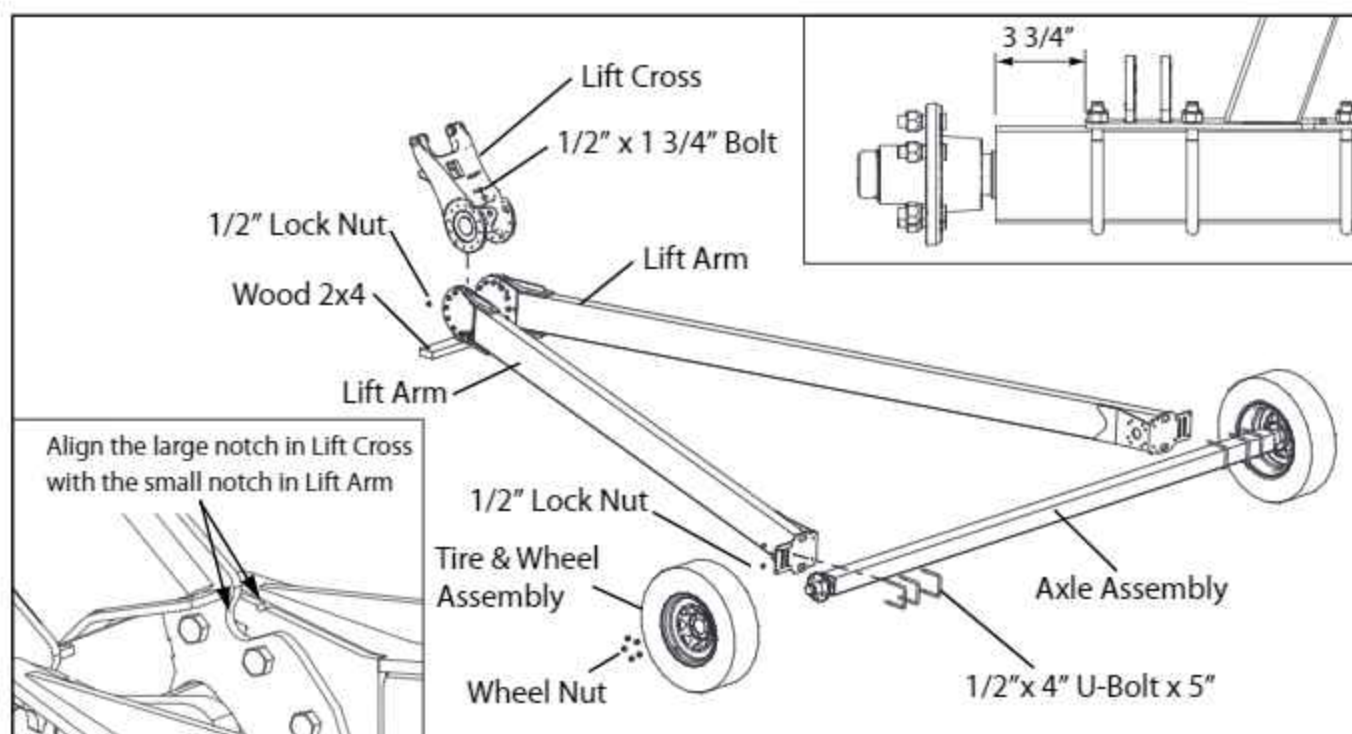

FIG. 3-1. Undercarriage Assembly
1. Mount the wheels to the Axle using the wheel nuts provided. **Torque the wheel nuts to 90 ft.lbs.** See Fig. 3-1.
3. Install the Lift Cross between the Lift Arms using twenty four 1/2" x 1 3/4" bolts and lock nuts. Make sure the Lift Cross is oriented as shown in Fig. 3-1. Tighten all the nuts and the nuts on the U-Bolts.